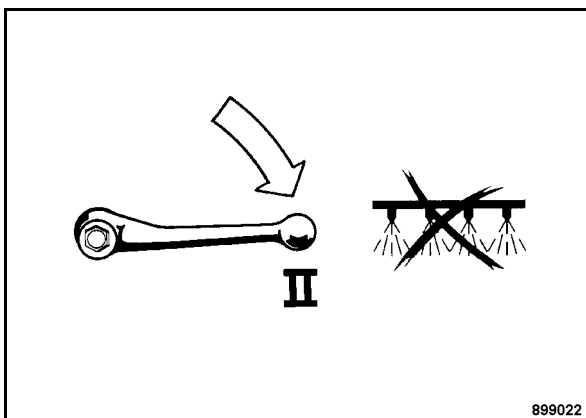

Fig. 44
- Switch the cock valve to position "II" (Fig. 44). The gravity sprinkler system is switched off.